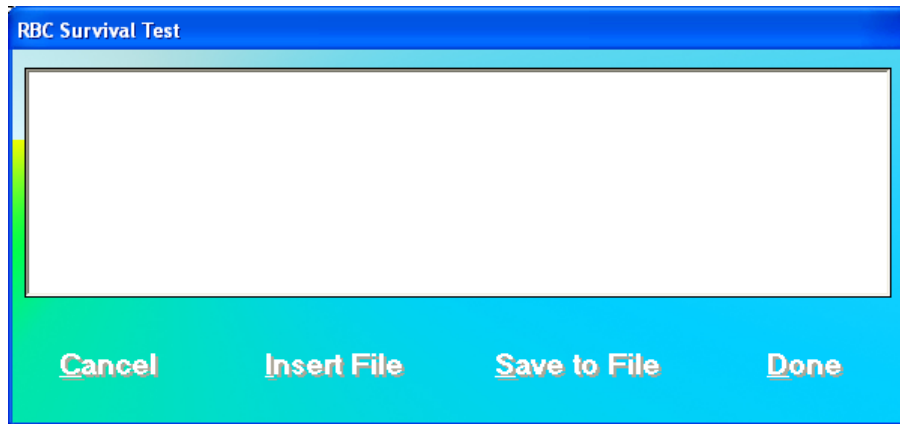

Figure 10-82
6. To add comments to the report, click the **Enter Comment** button or press *ALT+C*. The screen appears as in Figure 10-82.